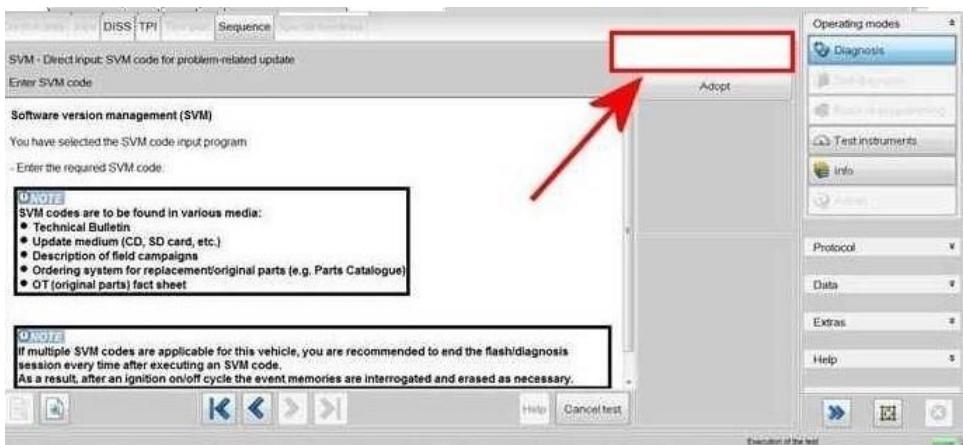

Figure 2
2) Referring to Figure 2 - Enter the SVM code 371C6SW5833